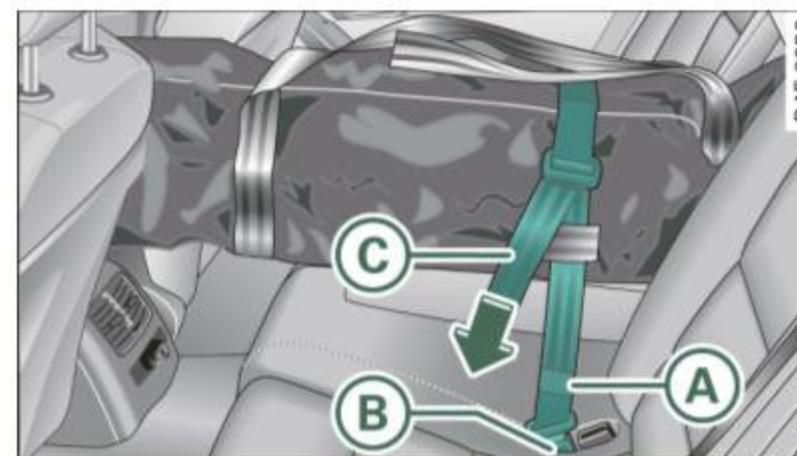

Fig. 86 Securing the ski sack at the center rear seat belt buckle
- Insert the ski sack strap (A) ⇒ fig. 86 into the center seat belt buckle (B).
- Pull the securing strap tight by the free end of the belt (C).
⇒ page 82, fig. 86.